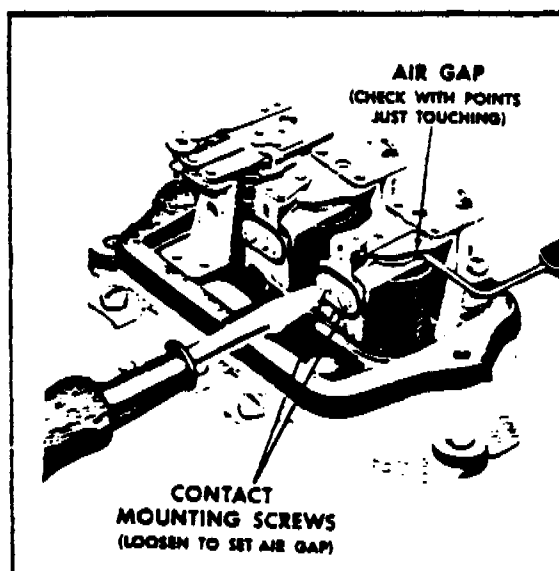

FIGURE 9-5. VOLTAGE REGULATOR AIR GAP CHECK AND ADJUSTMENT
- a. Air Gap - To check air gap, push armature down until the contact points are just touching and then measure air gap (Figure 9-5). Adjust by loosening the contact mounting screws and raising or lowering contact bracket as required. Be sure the points are lined up and tighten screws after adjustment.